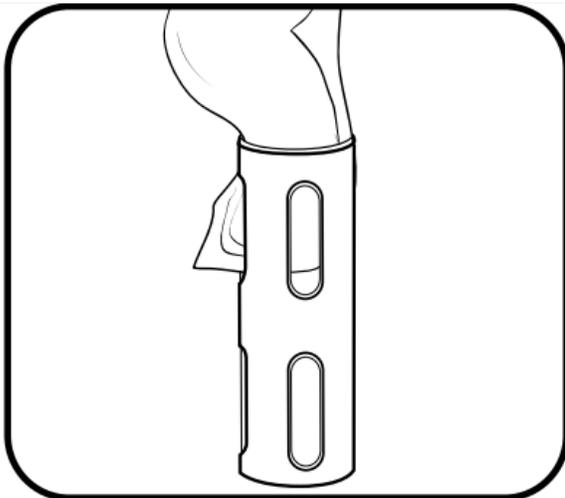

Figure 22. Use a Cloth to Remove Minimal Biofouling
**STEP 2** | If the guard contains a thin layer of slime or filaments, wipe away the biofouling with a cloth soaked in clean water and a few drops of a dishwashing liquid that contains a degreaser (Figure 22).